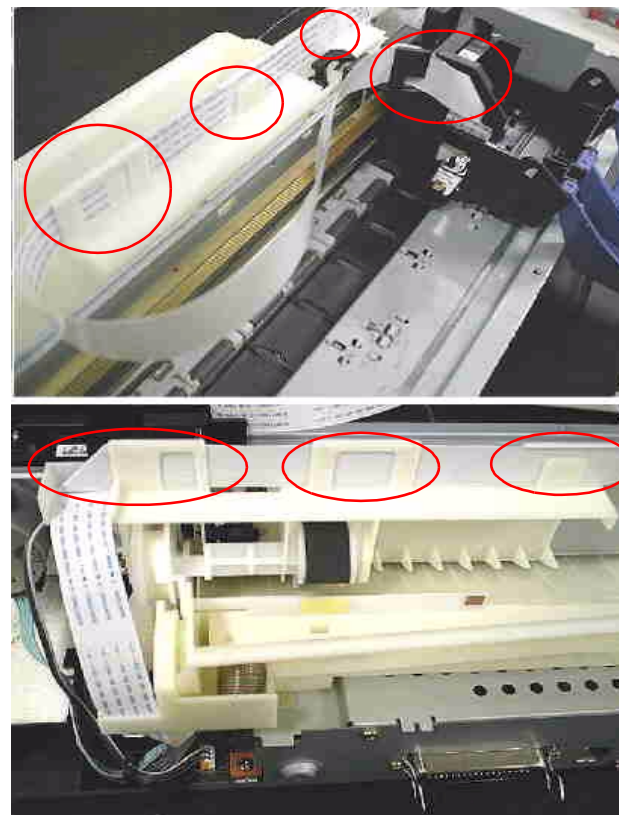

Figure 4-6. Placing the Printhead's FFC
- Place the Printhead's FFC in the cable holder by the four portions indicated in the following Figure4-6.